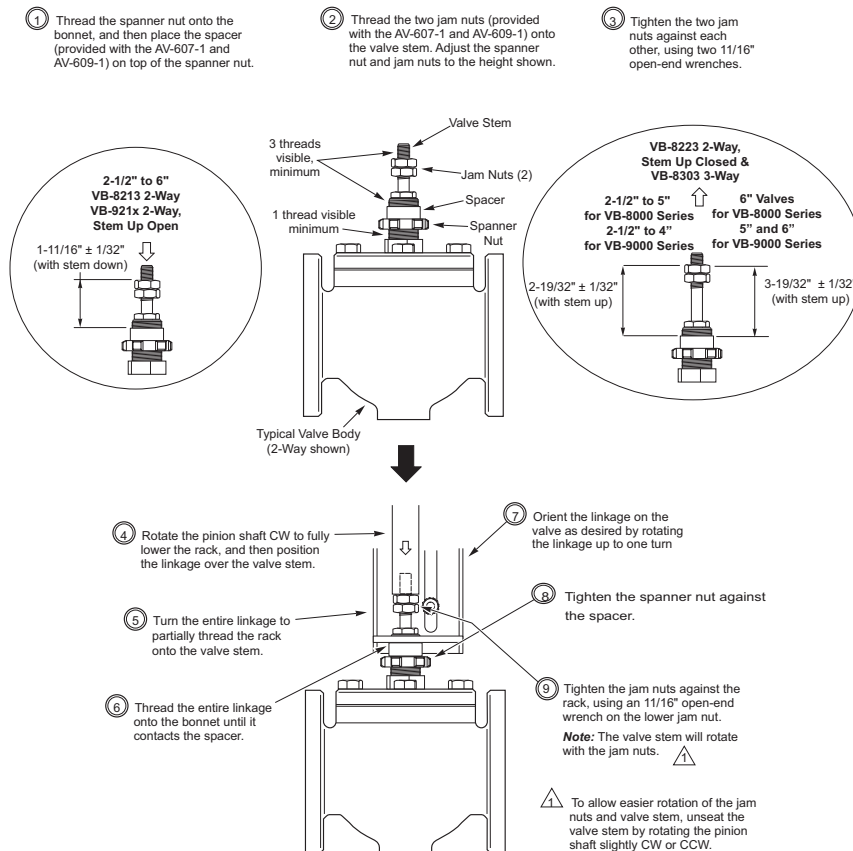

Figure-3 Assembling Linkage to Valve
1. Assemble the linkage to the valve, according to Figure-3.